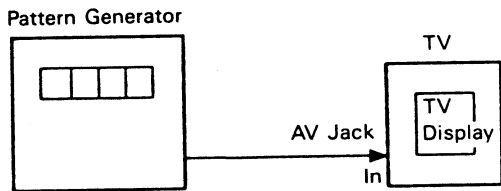

Fig. 22
- 5 Connect the equipment as shown in Fig.22